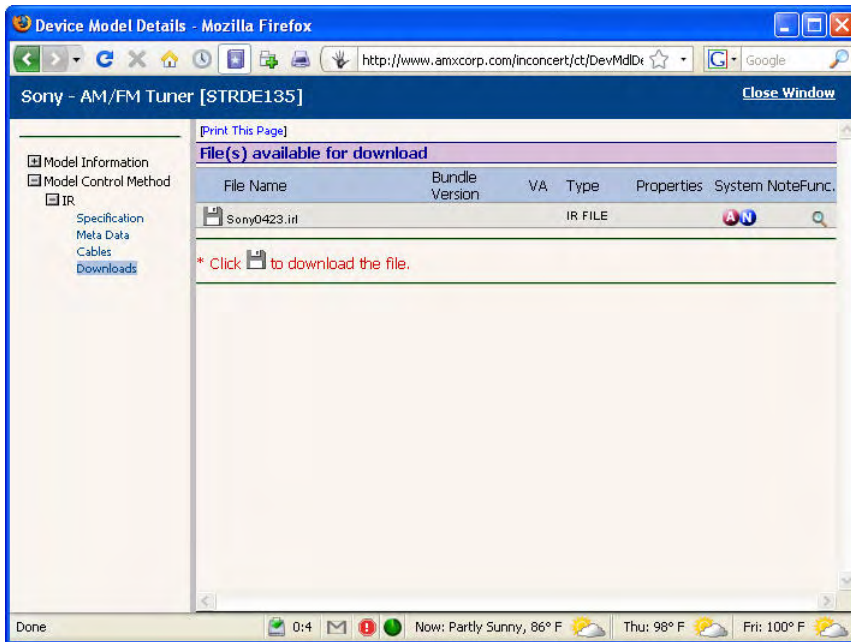

FIG. 49 Device Model Details dialog (Files Available for Download)
7. In the left-hand menu bar under **Model Control Method > IR**, select **Downloads** to access the File(s) available for download for the selected device / control method (FIG. 49).